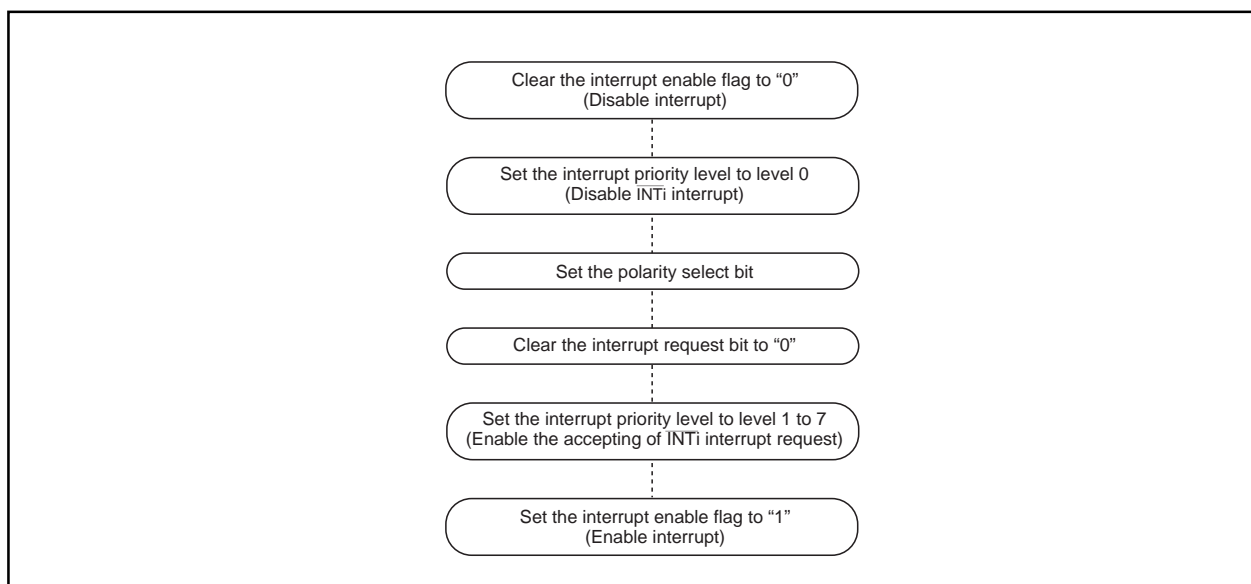

Figure 31. Switching condition of  $\overline{\text{INT}}$  interrupt request
**(2) Setting the stack pointer**
**(3) External interrupt**
- When the polarity of the  $\overline{\text{INT}}_0$  through  $\overline{\text{INT}}_5$  pins is changed, the interrupt request bit is sometimes set to "1". After changing the polarity, set the interrupt request bit to "0". Figure 31 shows the procedure for changing the  $\overline{\text{INT}}$  interrupt generate factor.